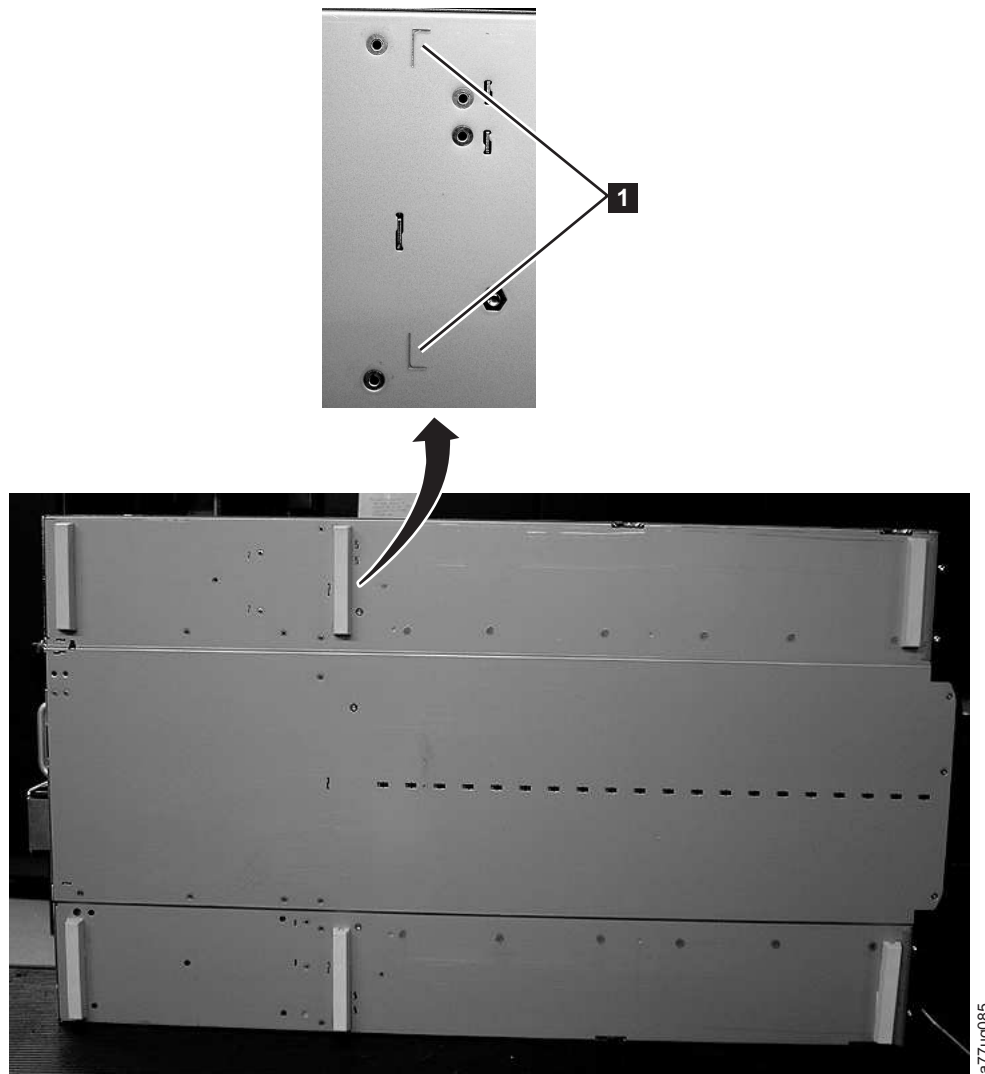

Figure 179. Foot pads that are installed on the bottom of the library enclosure
- 3) Install the foot pads on the bottom of the library enclosure by pressing each foot into one of the six areas (**1**) as shown in Figure 179.